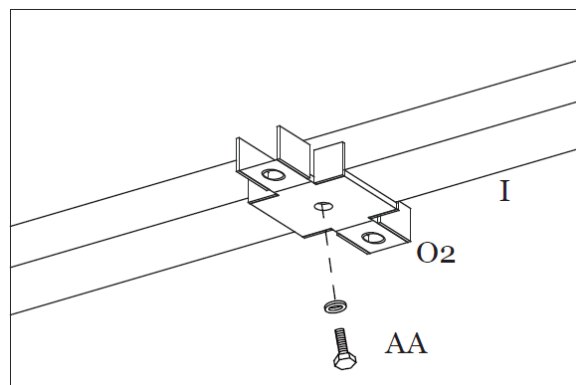

Figure 11-2
Step 11B: Attach the Main Roof Connectors (O2) to the Main Roof Vertical Center Supports (I) using Bolts (AA). See Figure 11-2.